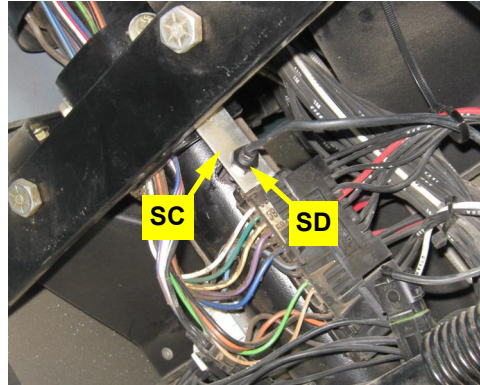

Figure 1e: Installed sensor arm and sensor
- f. Attach sensor **SD** to sensor arm **SC**. Using the removed steering console bracket bolt, attach the sensor/sensor arm to the steering console bracket (Figure 1e).